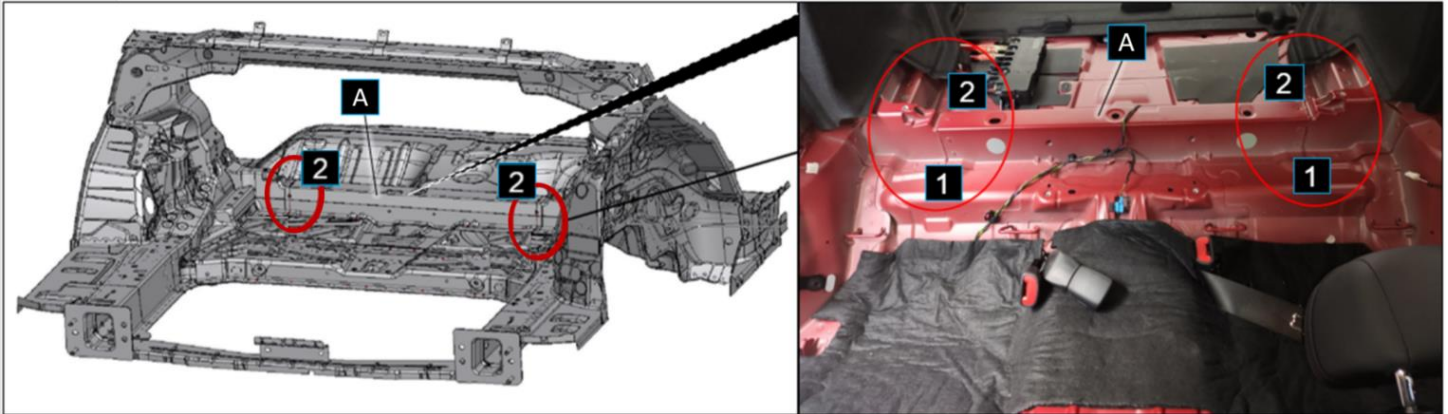

Figure 2
8. Rivet cross-member (**A, Figure 2**) with riveting machine at positions 1 and 2 (**Figure 2 and 3**).